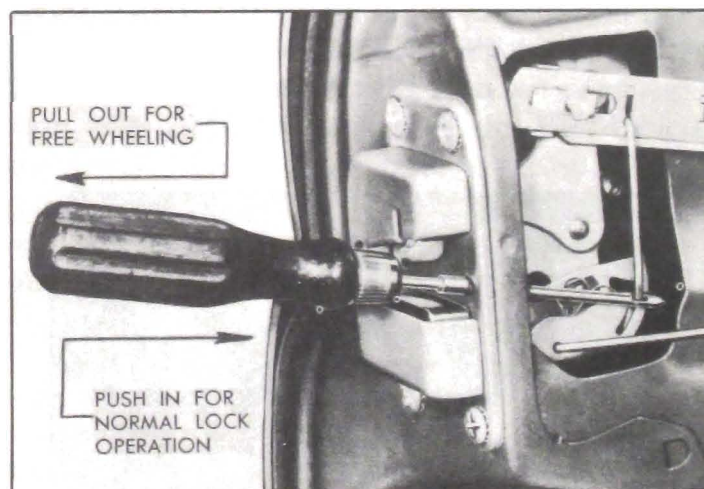

Figure 13-12—Free-Wheeling Adjustment
2. Insert Free-Wheeling Adjusting Tool J 2770 through hole in lock and engage notch of tool under the free-wheeling link. See figure 13-12.